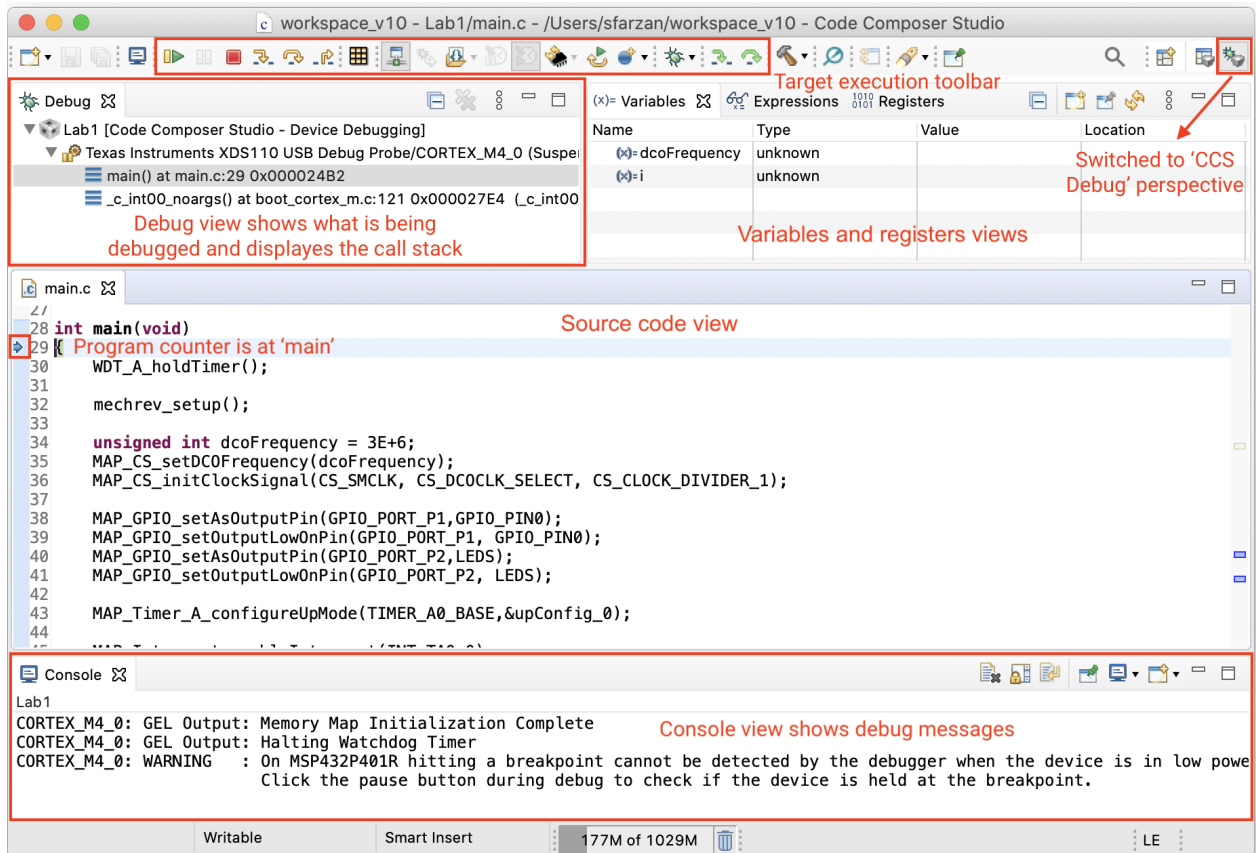

Figure 11: Debug mode perspective and the associated windows/toolbars.
- The perspective of the CCS will change. The CCS is now in Debug mode (Figure 11). Additional buttons are now available in the Quick Access panel as the Target Execution toolbar.